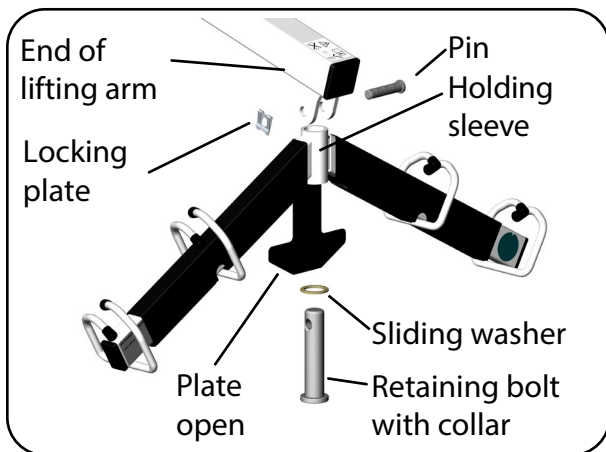

Fig. 6.2.08 – Assembly of the spreader bar
11. To mount the spreader bar, open the bar padding (plate). Remove the locking plate and then remove the pin from the hole on the end of the lifting arm. This separates the retaining bolt with collar from the lifting arm (Fig. 6.2.08).
13. Then insert the retaining bolt with collar together with the sliding washer from below through the holding sleeve of the spreader bar (Fig. 6.2.08). The sliding washer lies on the collar of the retaining bolt.